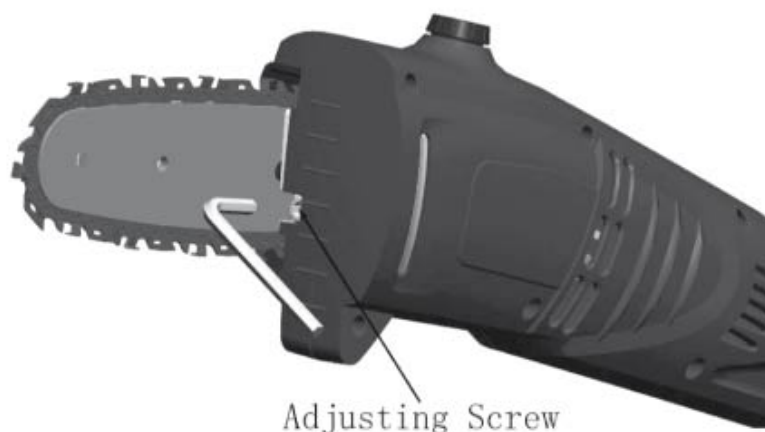

Figure 5
2. Turn adjusting screw on front of power head clockwise until slack is out of chain. (See **Figure 5**)